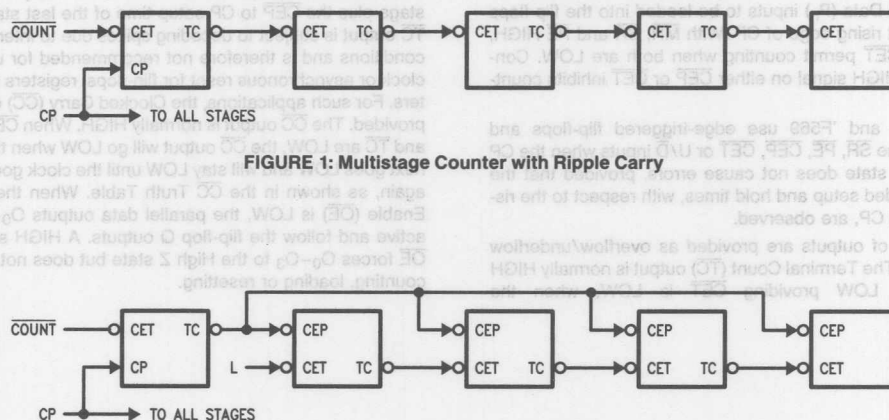

FIGURE 1: Multistage Counter with Ripple Carry
*Figure 1* shows the connections for simple ripple carry, in which the clock period must be longer than the CP to  $\overline{\text{TC}}$  delay of the first stage, plus the cumulative  $\overline{\text{CET}}$  to  $\overline{\text{TC}}$  delays of the intermediate stages, plus the  $\overline{\text{CET}}$  to CP setup time of the last stage. This total delay plus setup time sets the upper limit on clock frequency. For faster clock rates, the carry lookahead connections shown in *Figure 2* are recommended. In this scheme the ripple delay through the intermediate stages commences with the same clock that causes the first stage to tick over from max to min in the Up mode, or min to max in the Down mode, to start its final cycle. Since this final cycle takes 10 ('F568) or 16 ('F569) clocks to complete, there is plenty of time for the ripple to progress through the intermediate stages. The critical timing that limits the clock period is the CP to  $\overline{\text{TC}}$  delay of the first stage plus the  $\overline{\text{CEP}}$  to CP setup time of the last stage. The  $\overline{\text{TC}}$  output is subject to decoding spikes due to internal race conditions and is therefore not recommended for use as a clock or asynchronous reset for flip-flops, registers or counters. For such applications, the Clocked Carry ( $\overline{\text{CC}}$ ) output is provided. The  $\overline{\text{CC}}$  output is normally HIGH. When  $\overline{\text{CEP}}$ ,  $\overline{\text{CET}}$ , and  $\overline{\text{TC}}$  are LOW, the  $\overline{\text{CC}}$  output will go LOW when the clock next goes LOW and will stay LOW until the clock goes HIGH again, as shown in the  $\overline{\text{CC}}$  Truth Table. When the Output Enable ( $\overline{\text{OE}}$ ) is LOW, the parallel data outputs  $\text{O}_0\text{--}\text{O}_3$  are active and follow the flip-flop Q outputs. A HIGH signal on  $\overline{\text{OE}}$  forces  $\text{O}_0\text{--}\text{O}_3$  to the High Z state but does not prevent counting, loading or resetting.